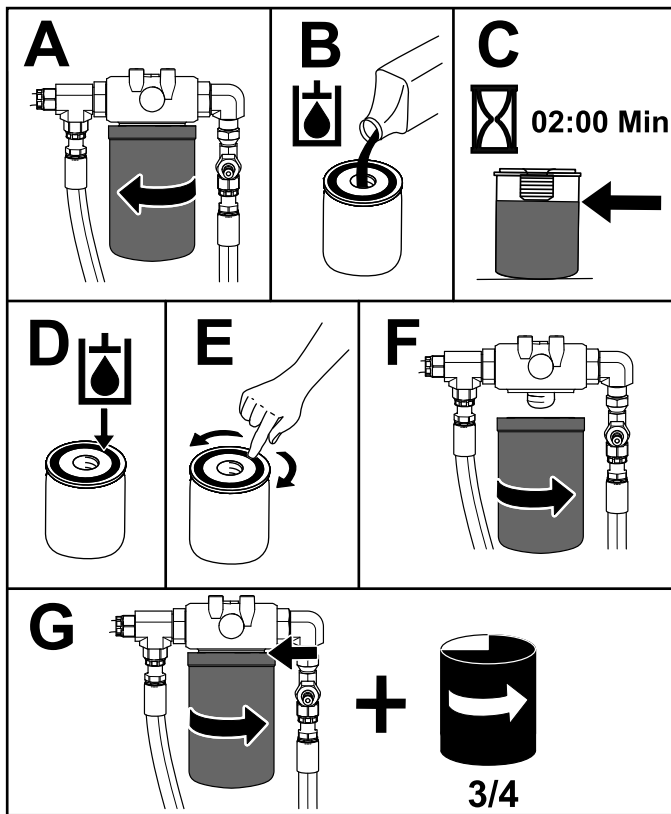

Figure 78
9. Place a drain pan under the rear filter and replace the filter (Figure 78).